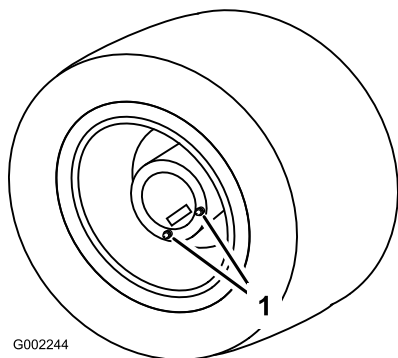

Figure 48
1. Position the sprayer on a level surface with the rear wheels positioned for draining as illustrated in Figure 48.
3. Place a pan under the drain plugs and remove them from the wheel (Figure 48).